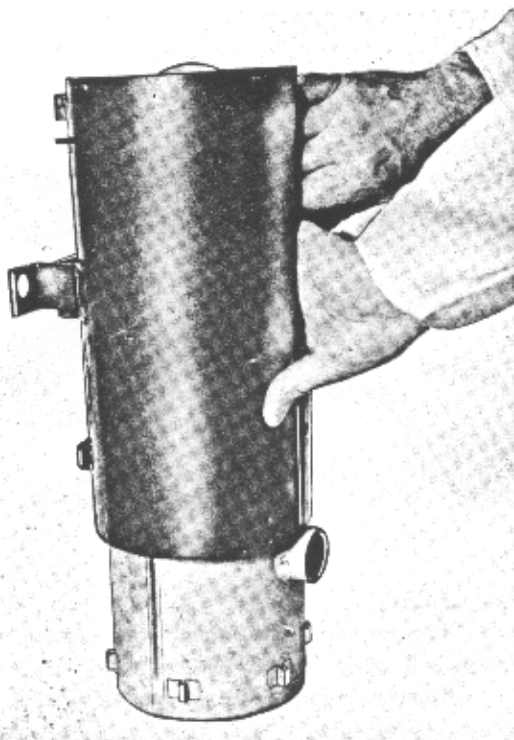

Figure 48
3. Spring heater case open with hands, enough to allow it to clear combustion air port on top of heat exchanger, and remove by sliding straight up until it is free of the heat exchanger (Figure 48).